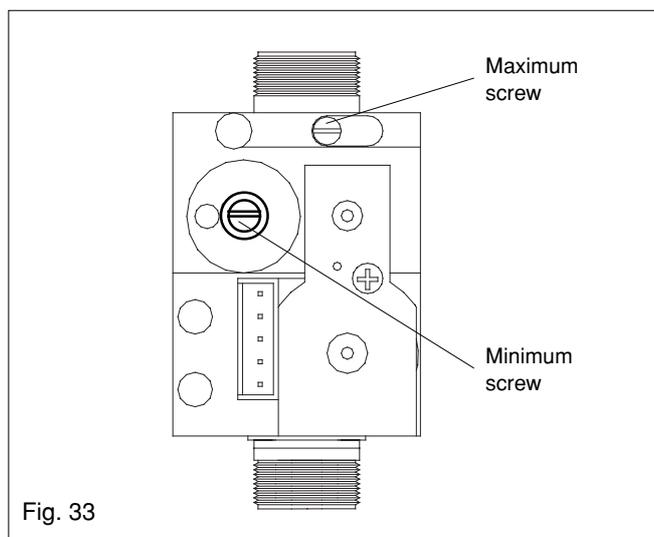

Fig. 33
- Using a suitable screwdriver, very slowly turn the minimum adjustment screw (fig. 33) – clockwise to increase, counter clockwise to decrease – until the correct value is displayed on the CO₂ analyser (allow time for the analyser to stabilise).
- Using a suitable screwdriver, very slowly turn the maximum adjustment screw (fig. 33) – clockwise to increase, counter clockwise to decrease – until the correct value is displayed on the CO₂ analyser (allow time for the analyser to stabilise).